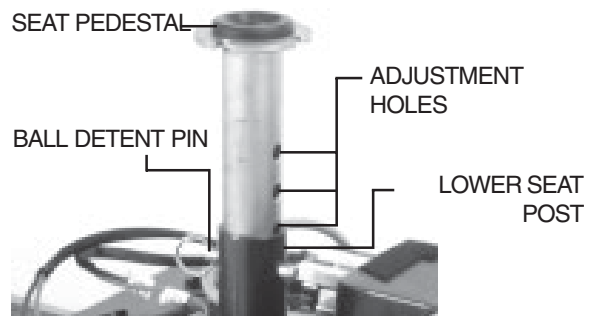

Figure 14. Seat Height Adjustment
2. Use the attached ring to pull and remove the ball detent pin from the lower seat post. See figure 14.